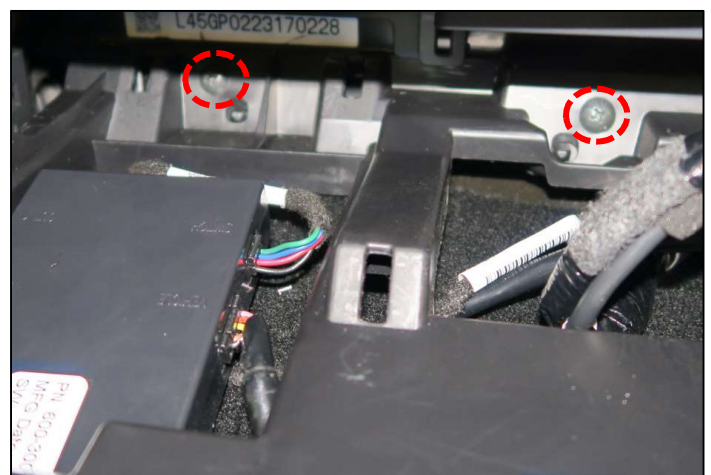

Figure 18
(Figure 18)
17. Remove the (2) screws from the front of the console finisher. (Figure 18)